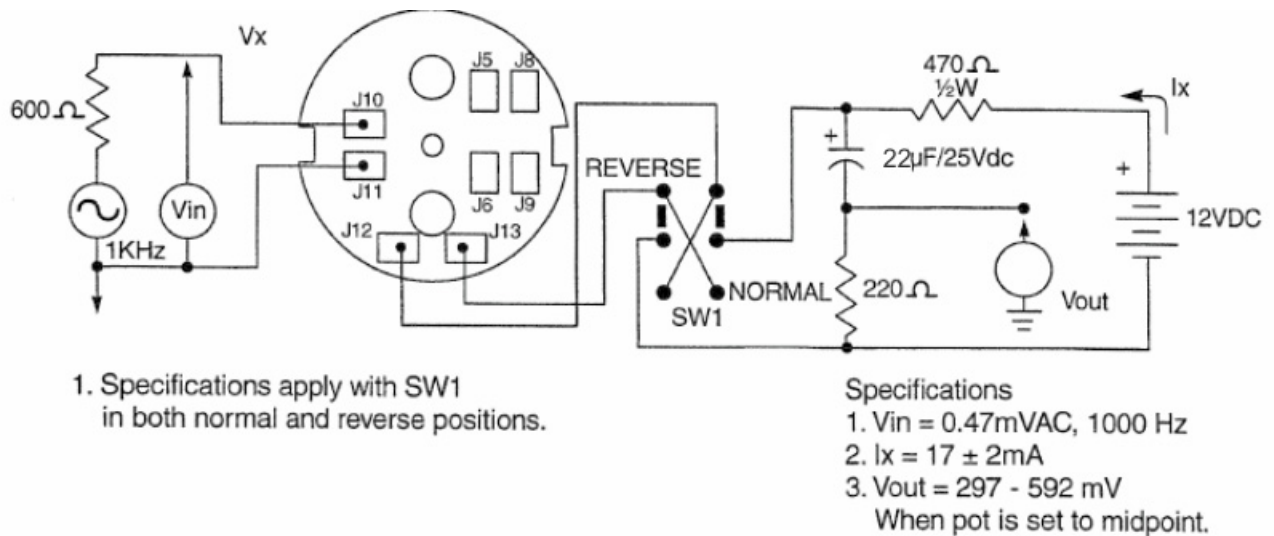

FIGURE 4. Test circuit for Airman 750
Circuit boards may be tested while outside of the headset chassis using the test circuit shown in Figure 4.
1. Construct the test circuit. For more information, see Figure 4.